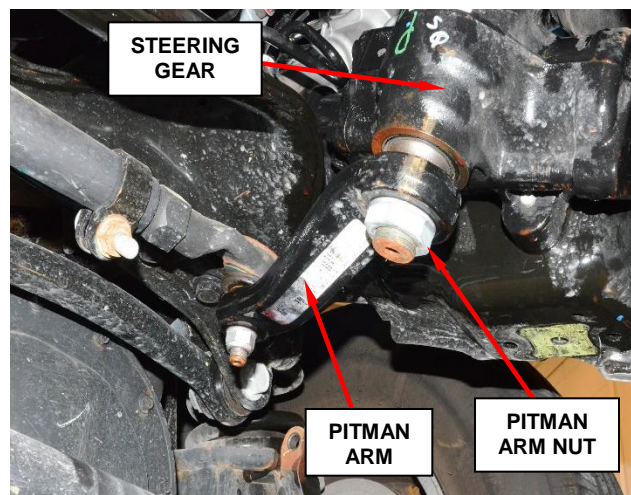

Figure 9 – Pitman Arm
29. Remove the pitman arm nut (Figure 9).
5. Install a **NEW** pitman arm nut and tighten to 450 N·m (332ft. lbs.) (Figure 9).